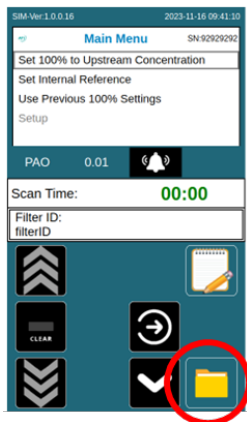

Figure 17. File manager key
**Step 1.** Press the File Manager key (Figure 17)